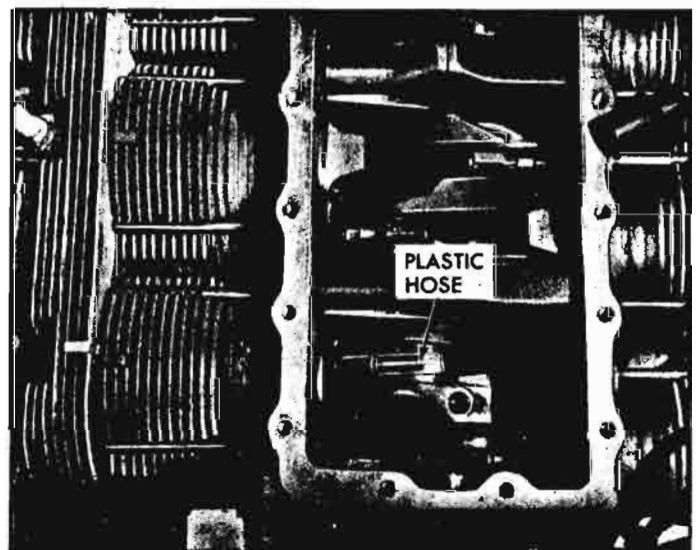

Fig. 6A-28—Connecting Rod Bearing Installation—No. 2 Shown
8. Remove all engine upper shroud retaining bolts and screws. Remove generator brace (fig. 6A-22).
14. Install a piece of $\frac{5}{16}$ " plastic hose on each connecting rod stud, to protect crankshaft journals as shown in Figure 6A-28.